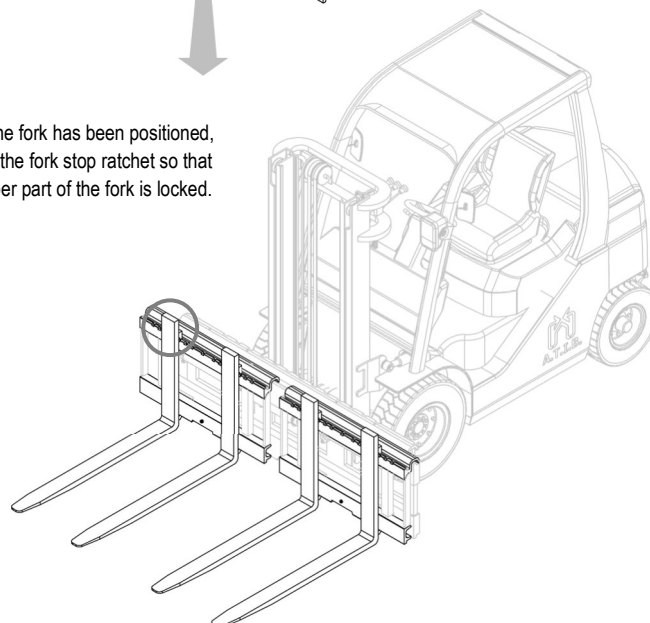

Figure 12
4. For reference, see *Figure 11* and *Figure 12*.